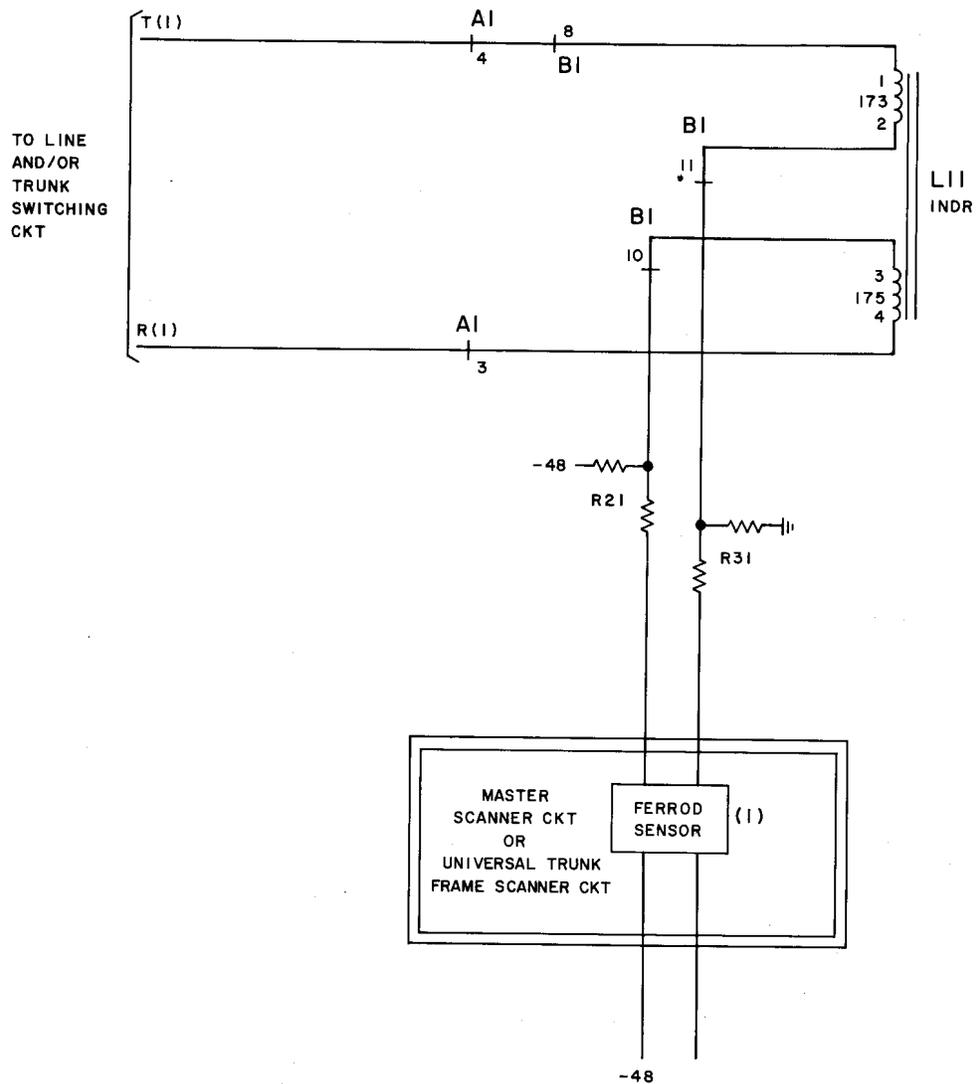

Fig. 4—Open Circuit Termination Circuit (State 1)
1.05 *Line Testing:* When testing a local line for open-circuit termination, relay A1 is operated by the PD circuit placing the line in the open-circuit test state (state 1) as shown in Fig. 4.